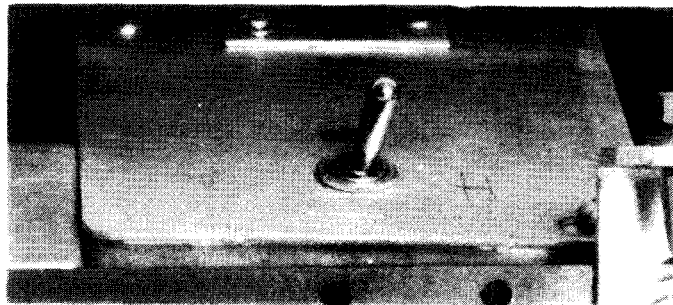

Figure 5—15. Print Drum Motor Speed Selection Switch
3. Release latch and raise form access cover (Figure 5—11).
5. Operate print drum motor speed selection switch (Figure 5—12 and 5—15) to the left for half speed or to the right for maximum speed.